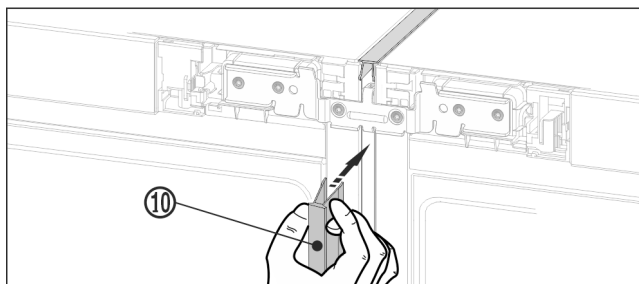

Fig. 21 *
- On the front press the long cover strip Fig. 21 (10) into the vertical gap. Ensure that the strip rests on the connecting plate.*